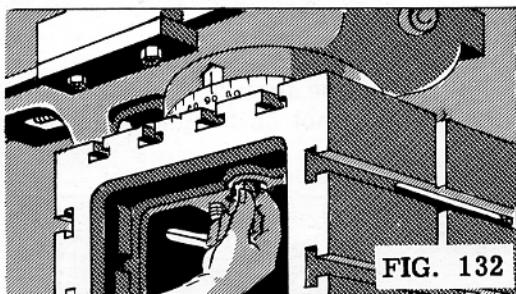

FIG. 132
2. Loosen and take off the three nuts and washers from the clamping bolts which pass through the table and project from the underside (Fig. 132).